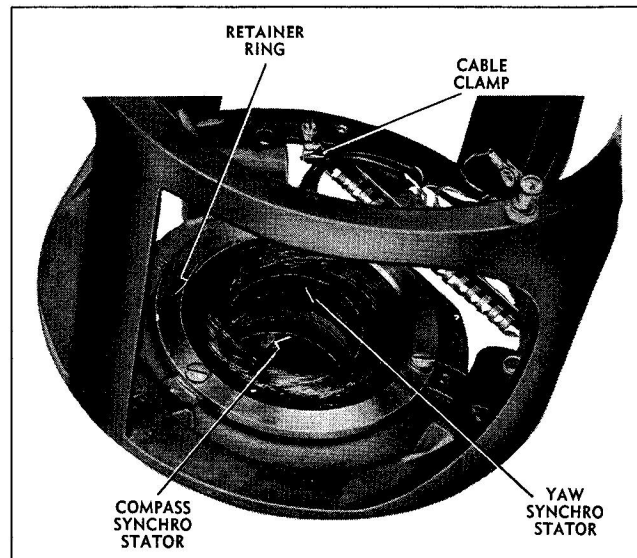

Figure 2-29 Close-up of Synchro Stators in Frame
that the disassembly be accomplished in the following order: (See figures 2-29 and 2-30.)
- (1) Unsolder the six leads for the synchro stators from the terminal block.
- (2) Remove the fillister-head screw, lockwasher, and clamp attaching the synchro cable to the frame. (See figure 2-29.)
(4) Unscrew three binding head screws and lift off the synchro stator retainer ring.
(5) Lift the top stator (yaw synchro) straight out from the cup. (See figure 2-29.)